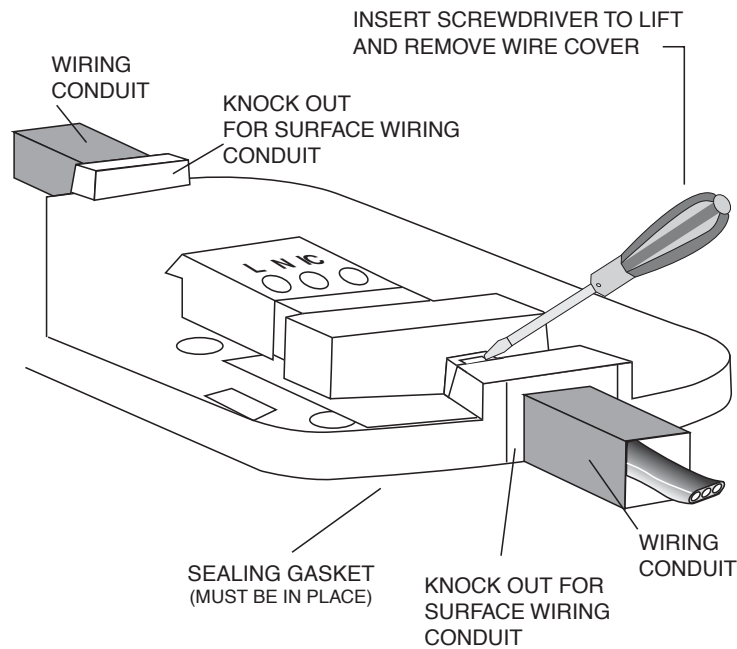

Figure 5 - Surface Wiring
4. Lift off the wiring cover as shown in *Figure 5* overleaf.
(a) position the mounting plate, so that the cable conduit is as shown in *Figure 5* overleaf.